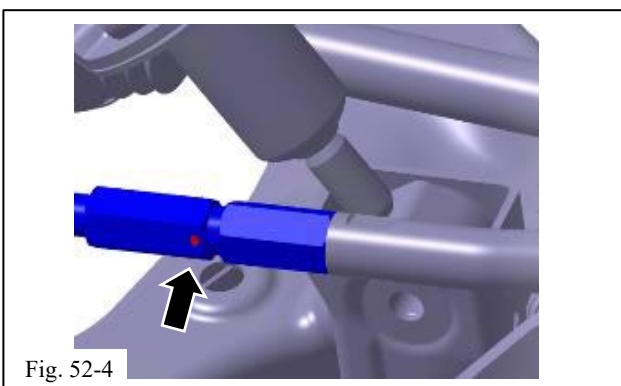

Fig. 52-4
- (5) Tighten the set screw in the TRD inner tie rod sleeve (Fig. 52-4).